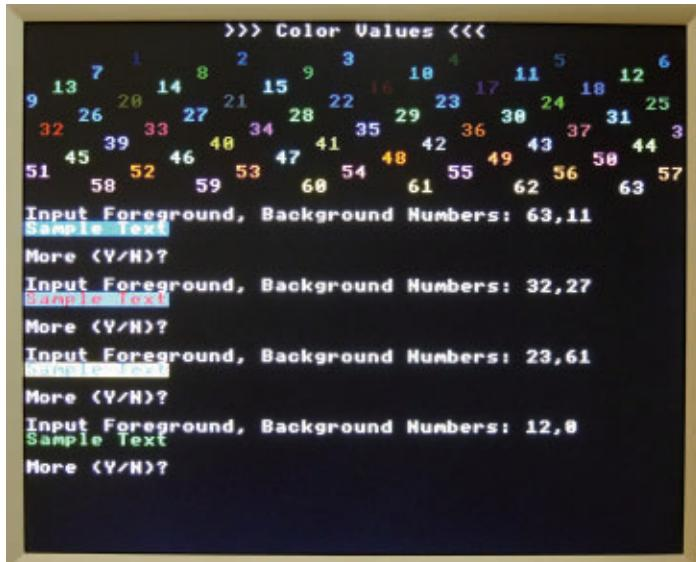

FIGURE 2: The right color combinations can dress up your screens.
- Line 125 marks the formal end of the program (Figure 2).